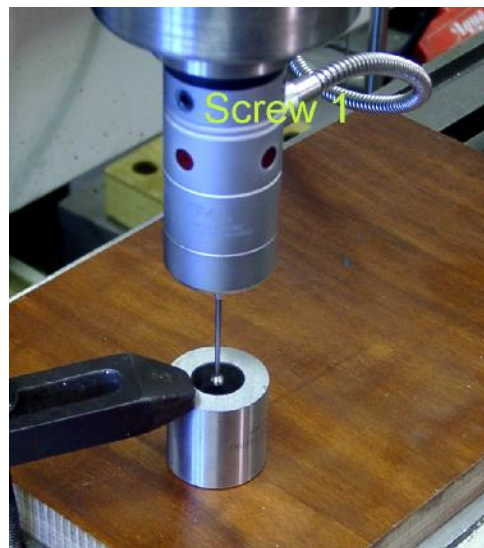

Figure 8.19 Probing Point 2 – Cable right
- Work using the Comp X/Y Probing screen. Zero the Point 1 DROs as it is not used. Select Point 2 and use the round yellow centre finding button to record the center of the alignment bore. This is illustrated in figure 8.19.